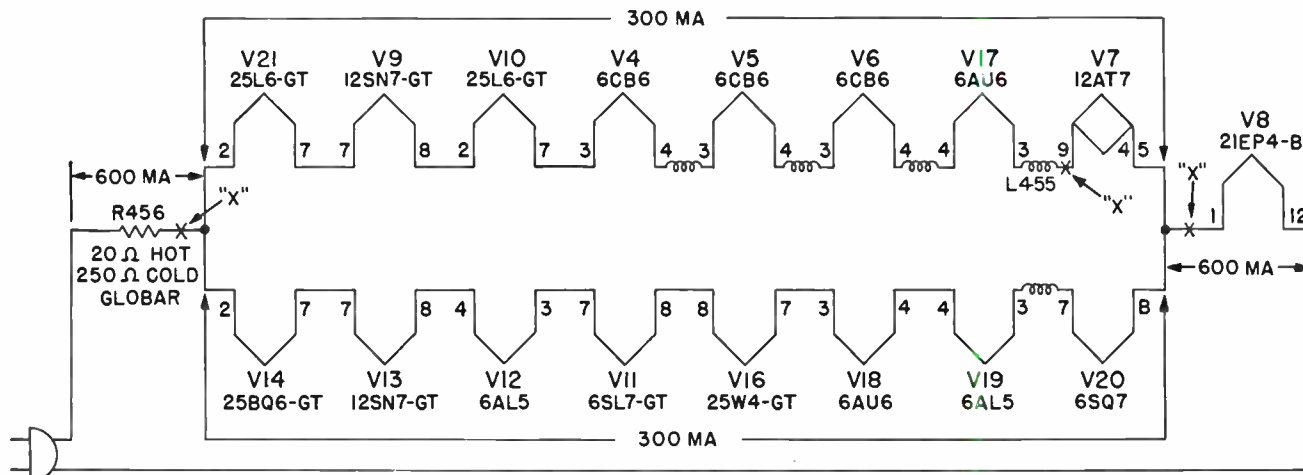
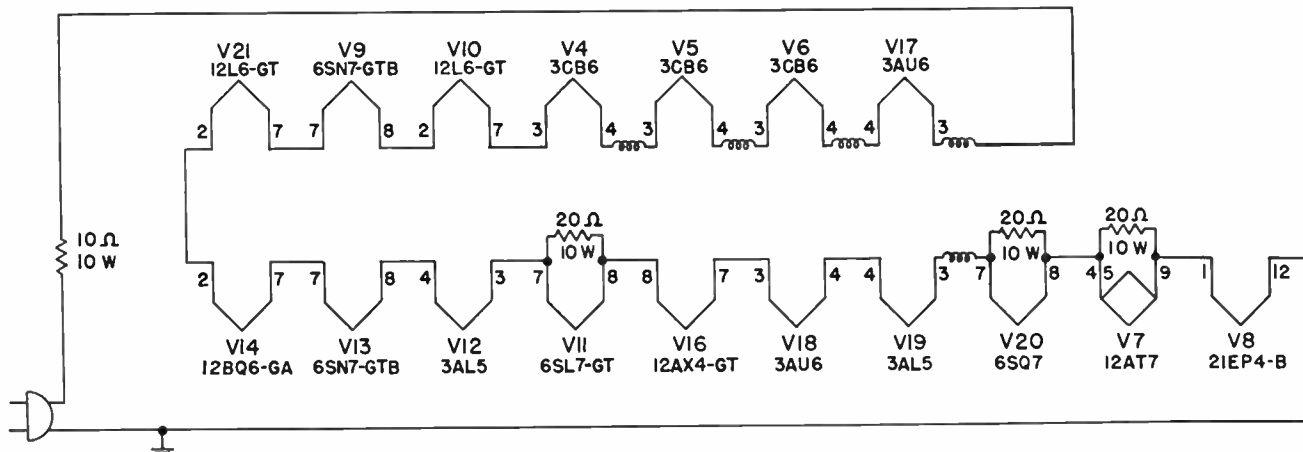

Fig. 1. Original heater circuit used in General Electric Model 21C200 receiver.
Fig. 2. General Electric Model 21C200 heater circuit rewired for new 600-milliamperere tubes with controlled heater warm-up time.
Several models can be easily rewired to use the new 600-ma tubes. One such model is the 21C200. This same chassis is also used in models 20T2, 20C105, and 20C106. The only difference between the 21C200 and the other three models mentioned is the vertical output tube. The 21C200 uses a 25L6-GT whereas the other models use a 12BH7. The rewiring of model 21C200 will be described first, then the wiring changes necessary for the other models will be described. The original wiring of the heater circuit in the model 21C200 is shown in Figure 1. This receiver has a separate 6.3-v transformer which supplies the tuner; therefore, this
Since 600-ma tubes were used whenever possible the wiring had to be changed so *all* of the tube heaters shown in Fig. 1 were wired in series. It will be noticed in Fig. 1 that two parallel strings of the tubes are wired in series and connected together at both ends; one end goes to the global resistor and the other end to pin 1 of the picture tube. Fig. 1 shows that each of these strings of tubes draws 300 milliamperes. Since both strings are connected together at each end, 600 milliamperes flow through both the global and the picture tube heater.
The heater wiring was changed so that all tubes in the receiver were in series as shown in Fig. 2.
To accomplish this it was only necessary to break the wiring at the three points marked "X" in Fig. 1. These points were rewired as shown in Fig. 2. It should be pointed out that wiring changes could have been made at other places in the heater string which would connect all tube heaters in series. The reason for wiring the heaters as shown was to keep the 12AT7 and 6SQ7 heaters as close to the B minus end as possible.
Unfortunately, all of the tubes shown in Fig. 1 do not have 600-milliamperere prototypes. It was therefore necessary to connect a 20-ohm, 10-watt resistor across the heaters of the 6SL7-GT, 6SQ7 and the 12AT7 as shown in Fig. 2.
(1) The end of choke L455 was removed from pin 9 of the 12AT7 socket. The wire from the bottom of the global resistor to pin 2 on the 25BQ6-GT was removed from the 25BQ6-GT and connected to the end of L455 as shown in Fig. 2. The black wire from pin 1 on the picture tube was disconnected from pin 8 on the 6SQ7 socket and connected to pin 9 on the 12AT7 socket as shown in Fig. 2.
(2) The global resistor was removed and a 10-ohm, 10-watt resistor substituted. This resistor was necessary because the heater voltage across each tube when added together totaled 110.25 volts as shown below.
(3) A 20-ohm, 10-watt resistor was connected across pins 4 and 9 of the 12AT7 (V7) as shown in Fig. 2.
(4) A 20-ohm, 10-watt resistor was connected across pins 7 and 8 on the 6SQ7 (V20) as shown in Fig. 2.
(5) A 20-ohm, 10-watt resistor was connected across pins 7 and 8 on the 6SL7 (V11) as shown in Fig. 2.
(6) The following tube replacements were made:
(7) Recheck all wiring changes before turning on receiver to prevent any possibility of burning out tubes because of incorrect wiring. An ohmmeter across the a-c terminals should show about 60 ohms. If either the 6SL7-GT, 6SQ7-GT or the 12AT7 tubes are removed, the resistance will increase to 70 ohms. The removal of any of the other tubes shown in Fig. 2 will increase the resistance to about 300 ohms.